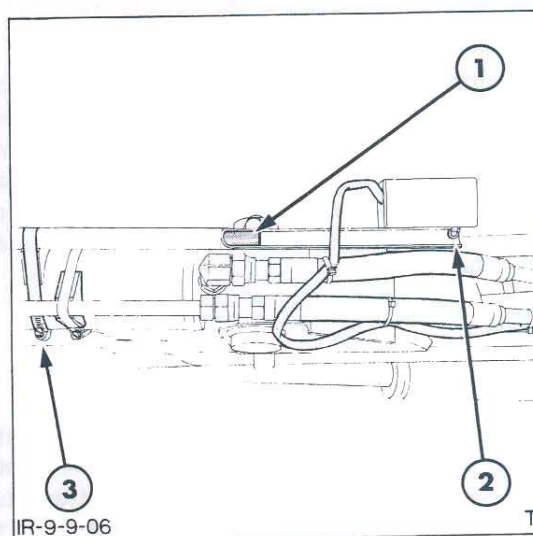

Figure 21
1. Place the loader bucket level with the ground and slacken the tube clamp which secures the level indicator tube to the bucket cylinder, Figure 21.